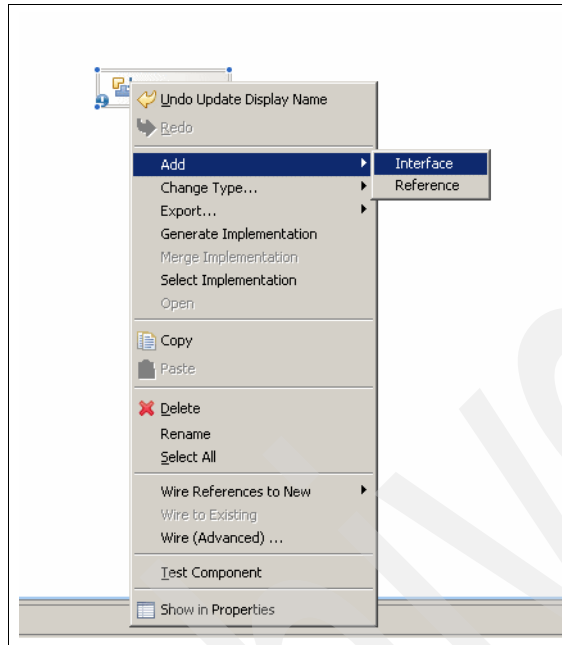

Figure 3-28 Add an interface
3. Add the interface MaintenanceInbound to the InboundTest Java component (Figure 3-28).